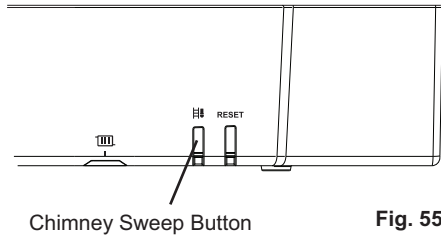

Fig. 55
1. The maximum rate CO₂ setting can only be reached via the minimum rate. Press the Chimney Sweep (Fig. 55) button for approximately 3 seconds. The status signal for the Chimney Sweep button is orange and flashes green briefly to show that the minimum rate is selected.